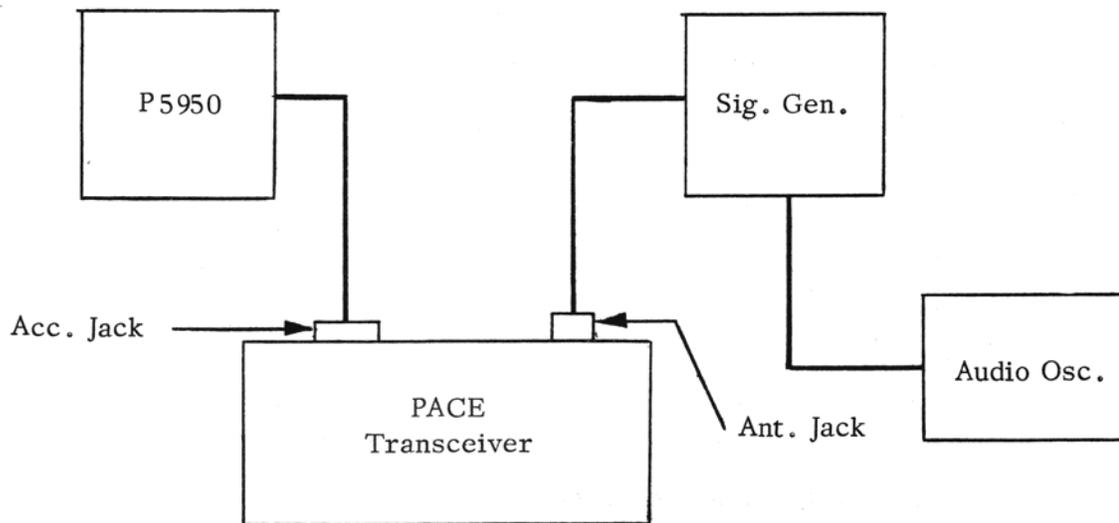

FIGURE 2
1. Equipment hookup as per Figure 2.